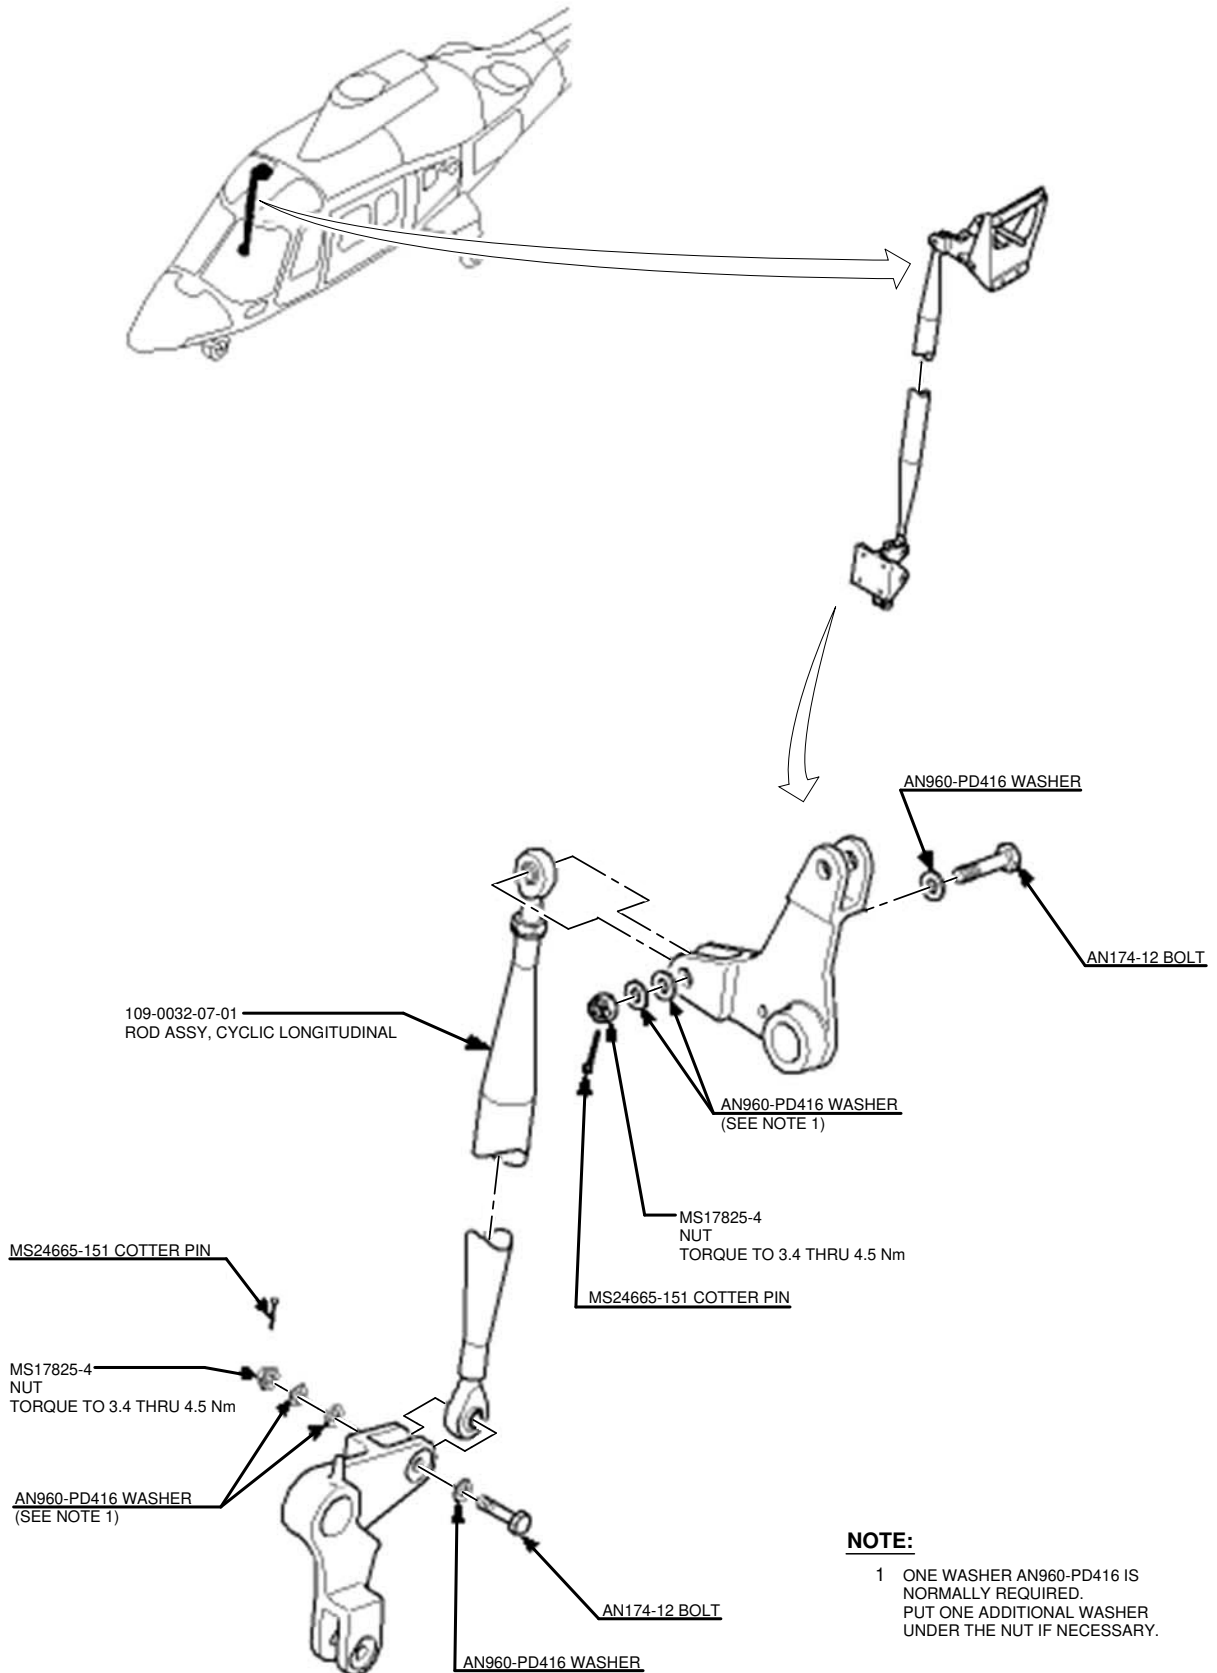

Figure 15
67.2 With reference to Figure 15, attach the upper end of the longitudinal control rod to the lever using the bolt P/N AN174-12, one washer P/N AN960-PD416 (under the bolt head), one washer P/N AN960-PD416 under the nut, and the nut P/N MS17825-4. Torque the nut to 3.4 thru 4.5 Nm and install a new cotter pin P/N MS24665-153. If necessary, install one additional washer P/N AN960-PD416 under the nut to obtain the correct engagement of the nut.
67.3 With reference to Figure 15, attach the lower end of the longitudinal control rod to the lever using the bolt P/N AN174-12, one washer P/N AN960-PD416 (under the bolt head), one washer P/N AN960-PD416 under the nut, and the nut P/N MS17825-4. If required, move slightly cyclic control stick as necessary to allow the insertion of the bolt. Torque the nut to 3.4 thru 4.5 Nm and install a new cotter pin P/N MS24665-153. If necessary, install one additional washer P/N AN960-PD416 under the nut to obtain the correct engagement of the nut.